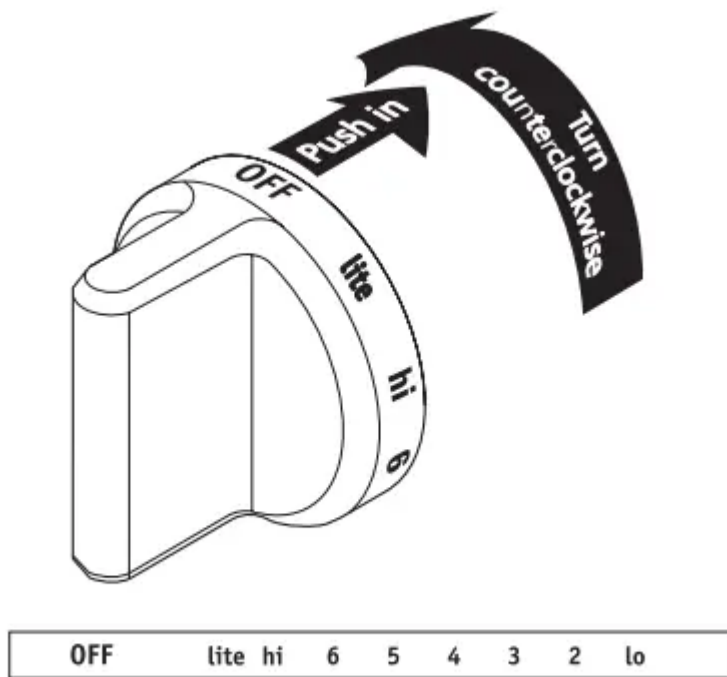

Fig. 1
2. Push the desired surface control knob in and turn counterclockwise out of the OFF position (Fig. 1).